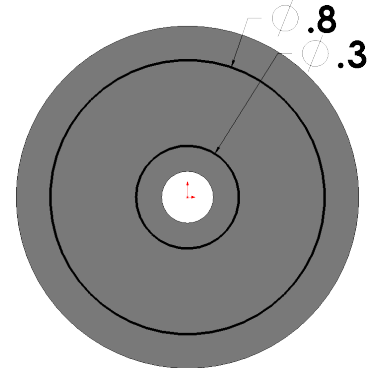

Fig. 7
Step 3. Click **Circle**  (S) on the Sketch toolbar.
Step 4. Draw **two circles** starting at the Origin , **Fig. 7**.
Step 5. Click **Smart Dimension**  (S) on the Sketch toolbar.
Step 6. Dimension the circles as shown in **Fig. 7**.